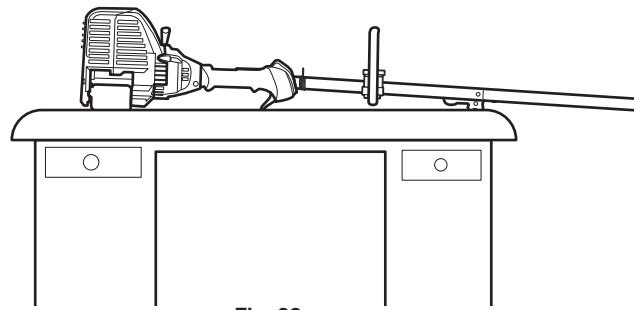

Fig. 32
2. **Set the unit on a flat, level surface**, such as a workbench or table. The cutting head shield should hang over the edge so that the engine is level (Fig. 32).